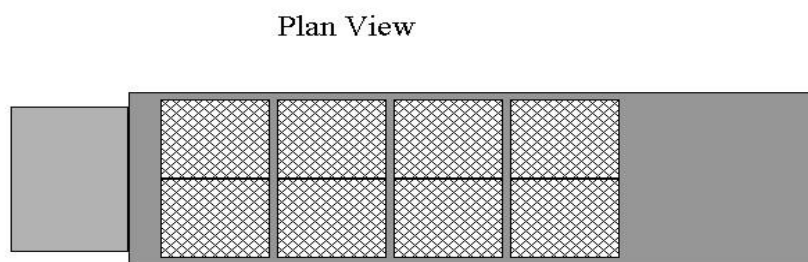

Figure 5
8. Secure using straps directly across the rear of the load, (See figure 5) after each two rows of RSCs ensuring the straps are positioned with their ends forward of the rear of the load.